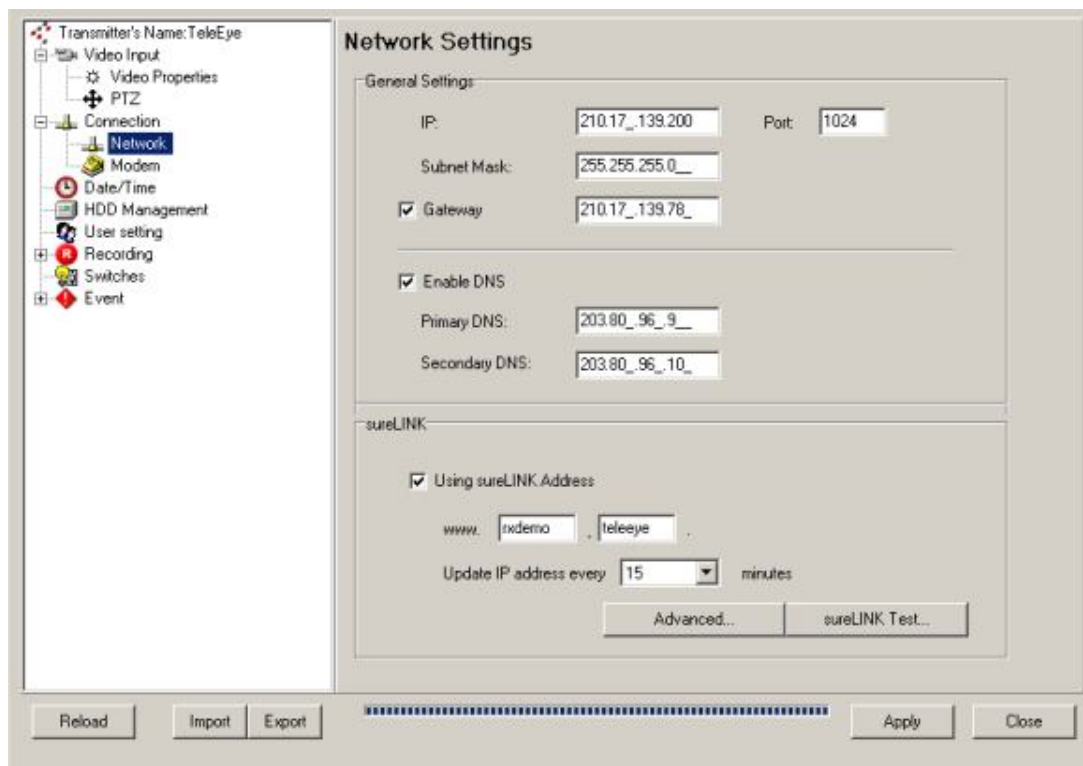

Fig 4.4.1a
Step 1 : Click [Connection] → [Network] option on {Transmitter Setup} panel to enter {Network Settings} panel as shown on Fig 4.4.1a.